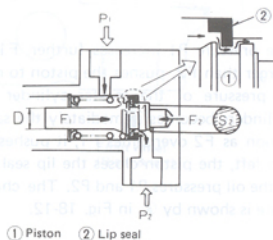

Fig. 18-12
When the pressure  $P_1$  increases further,  $F_1$  becomes larger than  $F_2$ , pushes the piston to right and the pressure of the master cylinder and wheel cylinders becomes immediately the same. But as soon as  $F_2$  overcomes  $F_1$ , it pushes the piston to left, the piston closes the lip seal and cuts off the oil pressures  $P_1$  and  $P_2$ . The change of pressure is shown by ④ in Fig. 18-12.